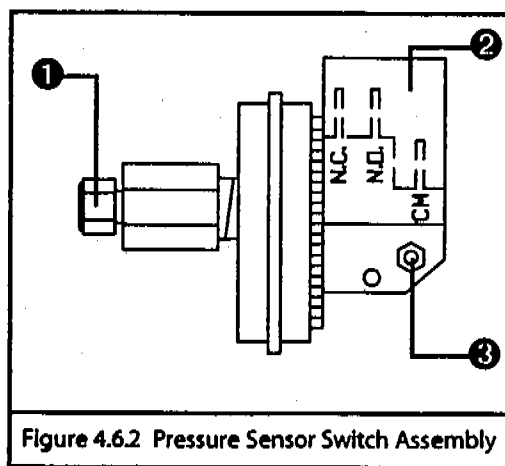

Figure 4.6.2 Pressure Sensor Switch Assembly
7. Disconnect the 1/8" water pressure line fitting (1, Figure 4.6.2) with a 7/16" wrench.